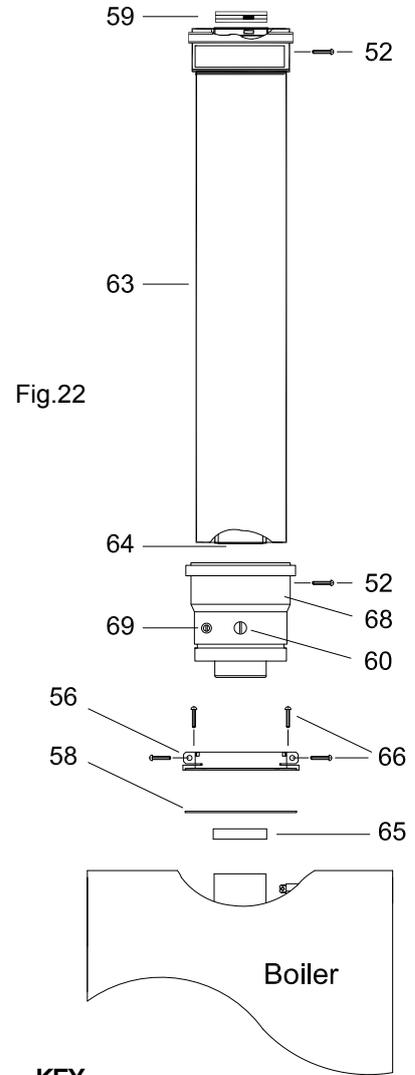

Fig.22
- Position the flue sample point starter (straight flue header which must be fitted) and tighten the two screws on the flue flange (fig. 22 item 66),
Important: Make sure that the inner 60 mm diameter of the straight flue header is inserted fully into the heat exchanger, and the rubber seal is correctly fitted. (Fig 22 item 65)
Starting at the appliance end, assemble the extension duct sections, making each inner and outer (flue) joint by inserting the spigot end into the socket end of the next tube, making sure the seal rings are correctly located (fig. 22). Make sure that the entire flue is adequately supported. Use at least one bracket for each extension used.